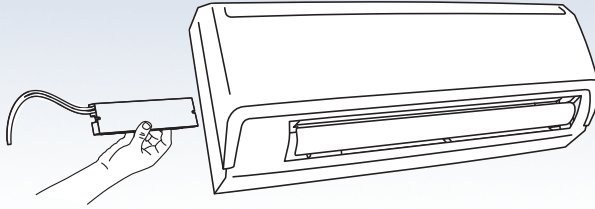

Figure 6.
- 5 • Tuck the power supply into the back of the AC unit or place it on other secure location. (Figure 6.)